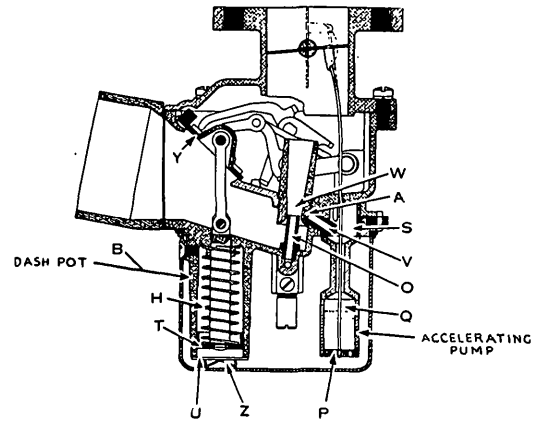
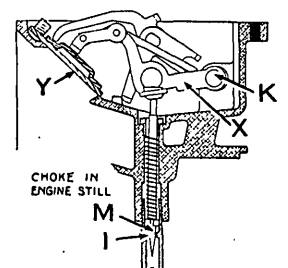

Fig. 7
Fig. 8
**An Air Valve Carburetor.**—The Model U is an air valve carburetor, having two air inlets. Referring to Fig. 7, the auxiliary air valve (Y) is closed for idling, and wide open for full power. It is held in a closed position by the spring (H) and will not open until the suction in the body of the carburetor is great enough to compress the spring. The spring (H) is just strong enough to insure good atomization of the fuel. The pressure required to open the valve (Y) to its wide open position is very little greater than that required to barely crack it from its seat. Thus positive action at low speed is assured with the greatest possible capacity at high speed.
**Action at Low Speed.**—The fixed air opening is through a venturi (W) past the nozzle (O). The air for the venturi passes through the same opening at the intake to the carburetor as the air which goes past the air valve (Y). As it passes the nozzle (O) it picks up the proper amount of fuel and atomizes it, delivering it to the motor. As the air valve (Y) opens, the air passing this valve mixes with the mixture delivered from the venturi (W). The fixed air opening through the venturi (W) has two important parts to play. When the air valve (Y) is clamped down in the starting position and the needle valve (M, Fig. 8) raised to the starting position, a very rich mixture is delivered out of the venturi (W, Fig. 7), which produces a good starting condition. When the carburetor is operating normally, the fixed air opening through the venturi (W, Fig. 7) creates a high air velocity past the nozzle (O) and the fuel delivered out of the nozzle is torn up and atomized so that good low speed operation is obtained.
**The Gasoline Passageway.**—The gasoline enters the float chamber through the valve (R, Fig. 9), and the level is governed by the float (J). After leaving the float chamber, it is governed by the gasoline needle (M, Fig. 8). It then passes through the cross-drill (N, Fig. 10), into the nozzle (O, Fig. 7), and on into the air stream through the venturi (W).